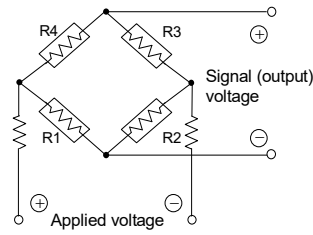
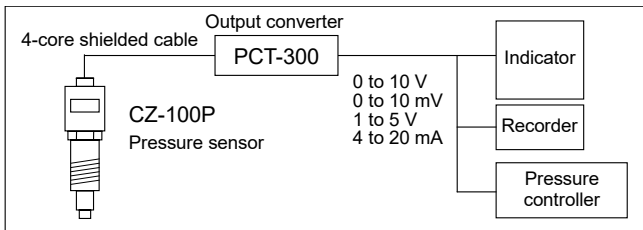

Fig. 1
Fig. 2 Block diagram of resin pressure system
elastic body. In this case, as shown in the attached diagram (Fig. 1), the elastic body is in such construction that by the application of force stretching strain occurs in R1 and R3, while shrinking strain in R2 and R4 to increase the gauge resistances of R1 and R3 and to decrease those of R2 and R4. These resistance changes are detected as bridge voltage change to generate the output proportional to the force applied. The output thus generated is input to the PCT-300 output converter which can finally output the DC voltages of 0 to 10 V, 0 to 10 mV, 1 to 5 V and 4 to 20 mA from its output terminals via a 3-stage amplifier circuit.
- If the sensor is installed in the upright direction (Fig.1-A), it may be affected directly by heat flow from heater or heat source (rising current of heated air). In such a case, the temperature of the strain gauge in the sensor may exceed an allowable maximum temperature of $150\text{ }^{\circ}\text{C}$. In order not to exceed this limit temperature, it is necessary to keep the sensor outer cylinder surface at a temperature of less than $134\text{ }^{\circ}\text{C}$ (Fig.2). Conduct the following treatments.